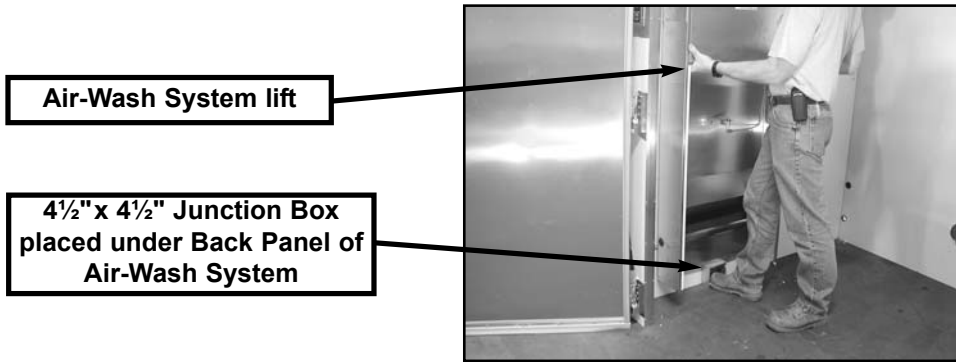

Figure 3
7. Carefully lift Air-Wash System and place Heater Wires, Copper Water Line & CPVC Piping through Holes of Front Roof Panel. Rest bottom of Air-Wash System Back Panel on top of 4½" x 4½" Junction Box for support (***Note:** Middle Panel under Fan Panel can also be removed for easy lift. **DO NOT** use Heater Elements to lift!). See **Figure 3**.